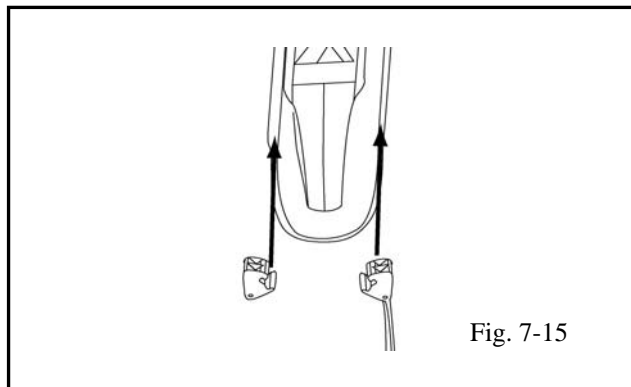

Fig. 7-15
- (p) Slide the rear wheel holder strap and clamp back on the wheel track. (Fig. 7-15)